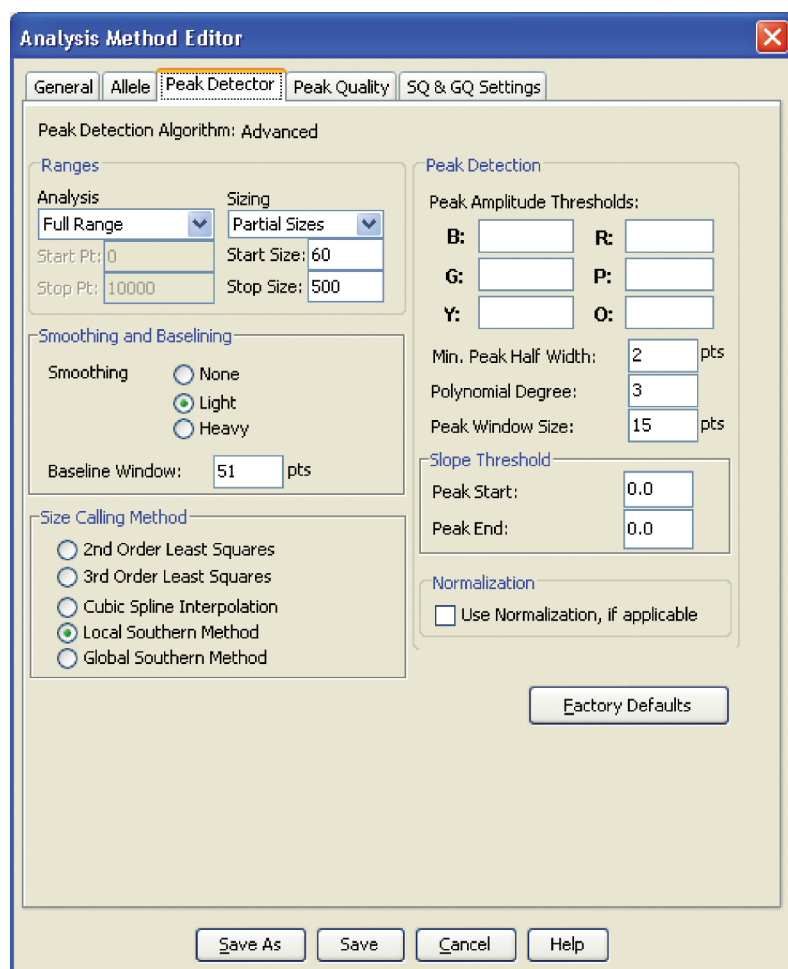

Figure 15. The GeneMapper® ID-X ‘Peak Detector’ tab.
9. Select the ‘Peak Detector’ tab (Figure 15). You will need to optimize these settings. In-house validation should be performed.
9. Select the 'Peak Detector' tab (Figure 15). You will need to optimize these settings. In-house validation should be performed.